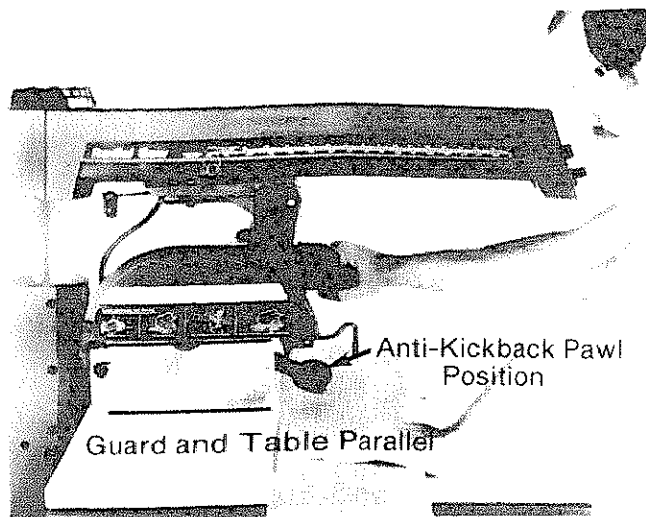

Fig. 90 - Crosscut Blade Guard and Body Position
**WARNING:** To reduce the risk of contact with the upper half of the blade and keep the workpiece from jamming in the guard, set the blade guard in the horizontal position. Fig. 90.
▲ WARNING: The blade guard must be horizontal to provide protection from contact with the upper half of the blade and avoid the workpiece being jammed in the blade. Set the blade guard in the horizontal position. Fig. 90.